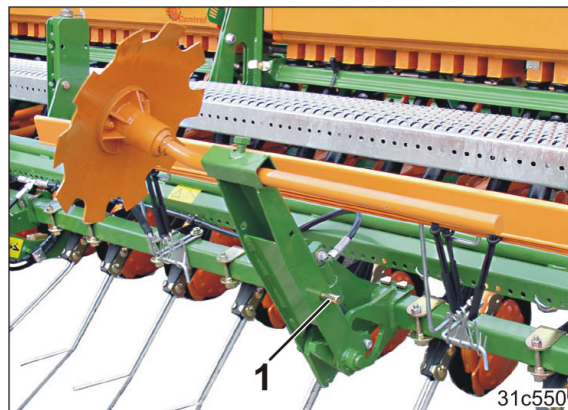

Fig. 201
2. Hold the track disc carrier, remove the pin (Fig. 201/1) and swivel the track disc carrier downwards.